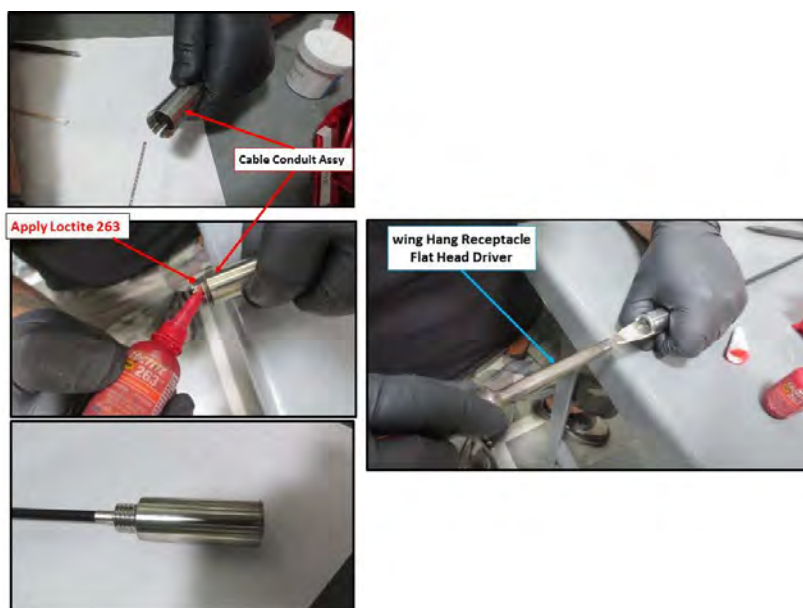

FIGURE 19-11
11. Apply Loctite 263 on the threads of the cap and lock it using wing Hang Receptacle Flat Head Driver or similar tool. (See Figure 19-11.)